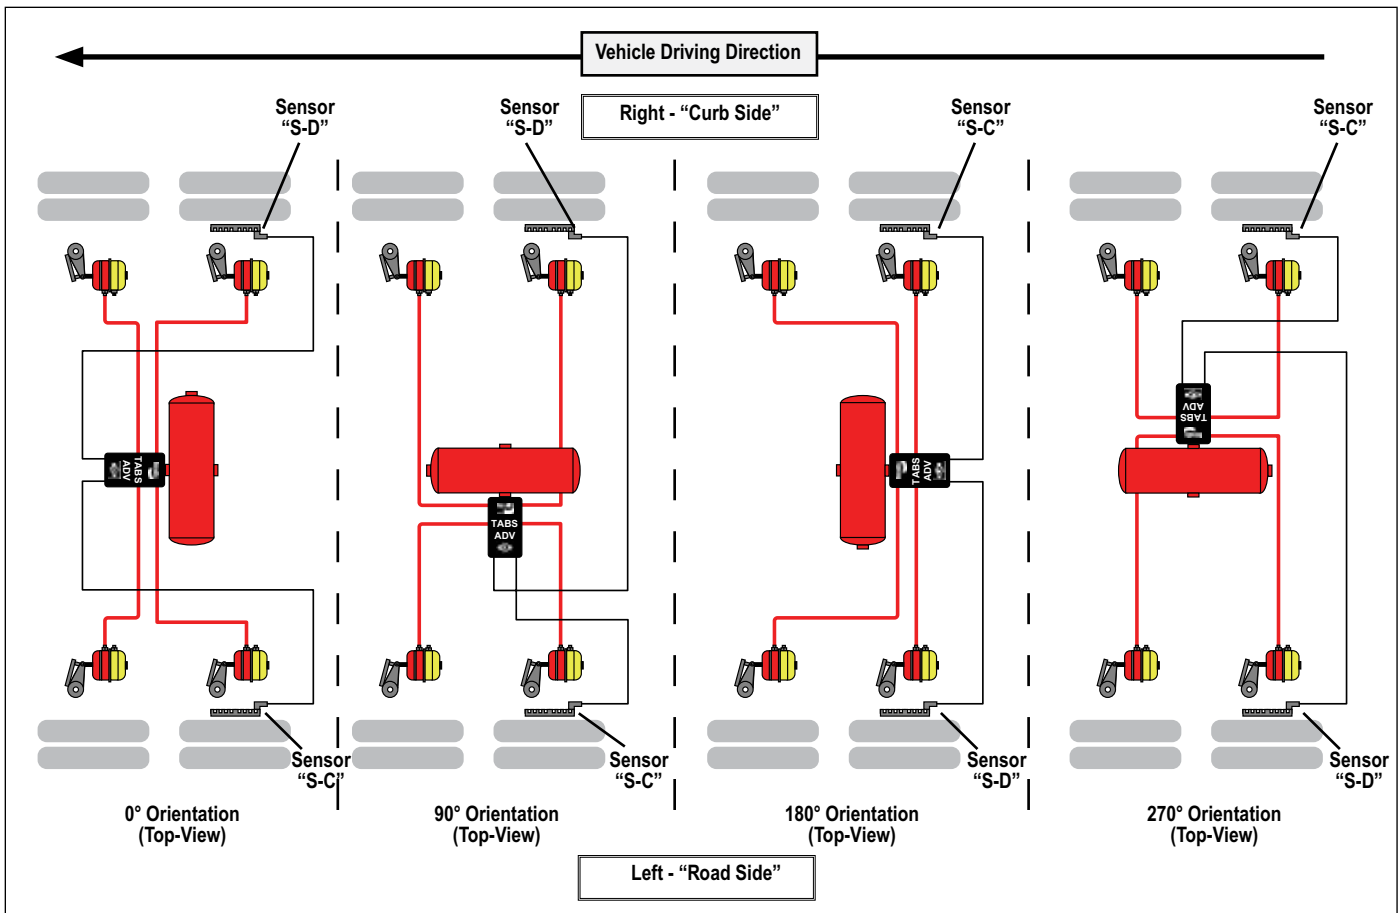

FIGURE 19 - WHEEL SPEED SENSOR INSTALLATION
Note: The wheel speed sensors must follow the orientation of the module as shown in Figure 19 for fixed axle trailers.
- If the wheel sensor location does not match the orientation of the Bendix® TABS-6™ Adv module shown in Figure 19, a Diagnostic Trouble Code (DTC) will be generated and the ABS indicator lamp will be illuminated.